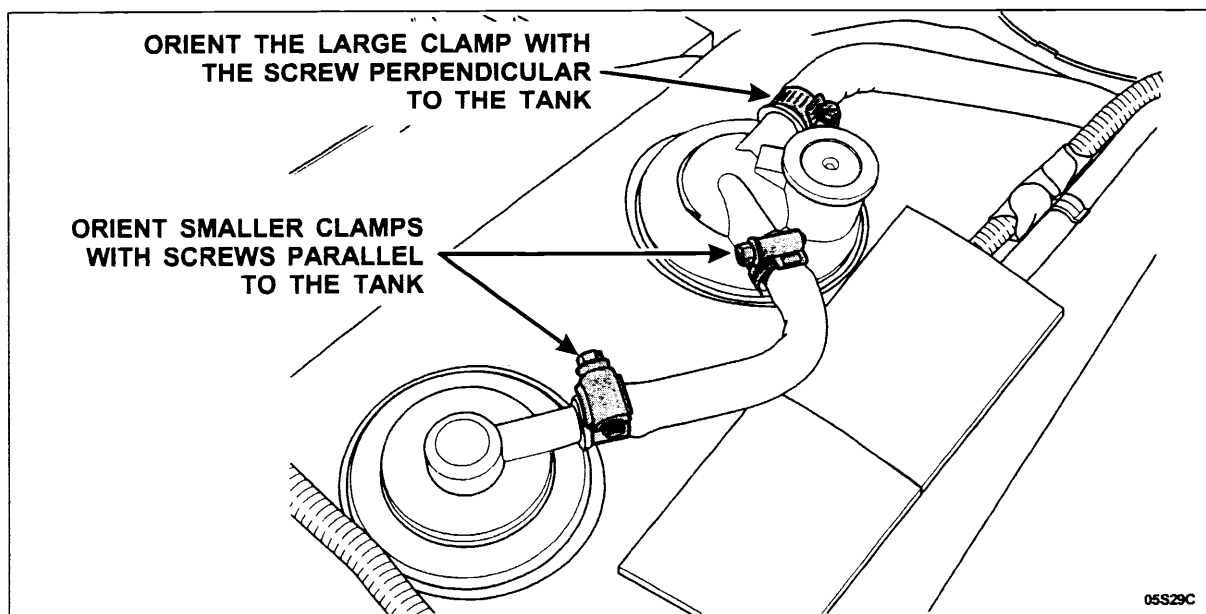

FIGURE 3
- If necessary, when transferring the vapor tubes to the valves on the fuel tank, use **new** screw-type clamps obtained locally. Proper clamp orientation is necessary to avoid clamp contact with the floor pan. Be sure to orient the clamps on the large diameter hose so the screw is perpendicular to the tank (pointing straight down). Orient the clamps on the smaller hoses so the screws are parallel to the tank. See Figure 3. Tighten the clamps until snug and then an additional two (2) revolutions. Be sure to tighten the clamps properly or evaporative emissions leaks may result, which could lead to setting a DTC and turning on the MIL.